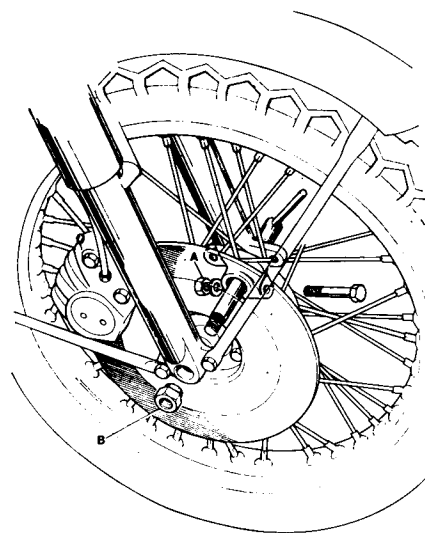

Fig. H7 Disc brake front wheel removal
- 1 Slacken the fork end clamping nut. (See Fig. H7).